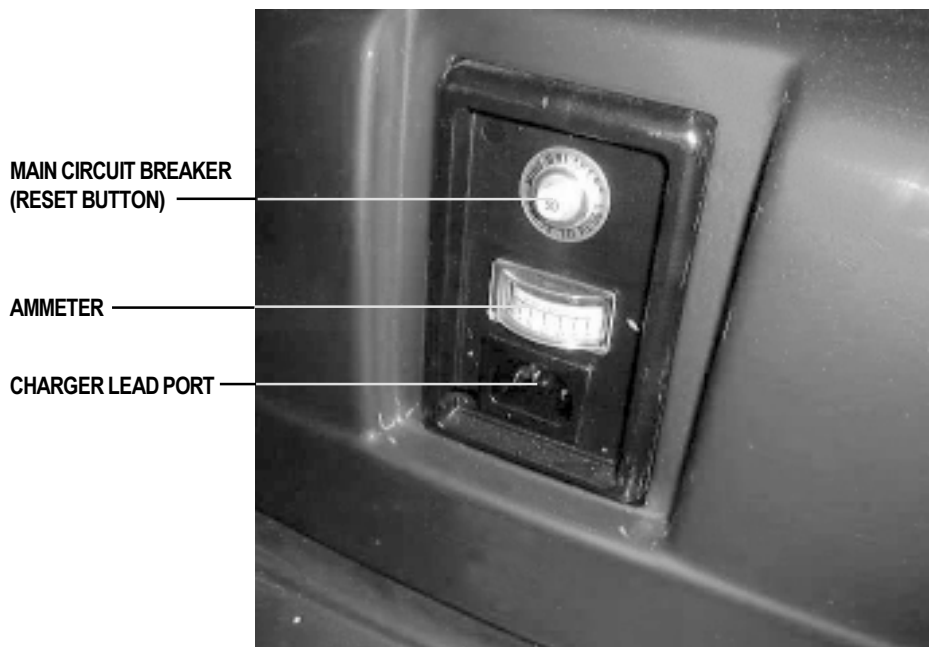
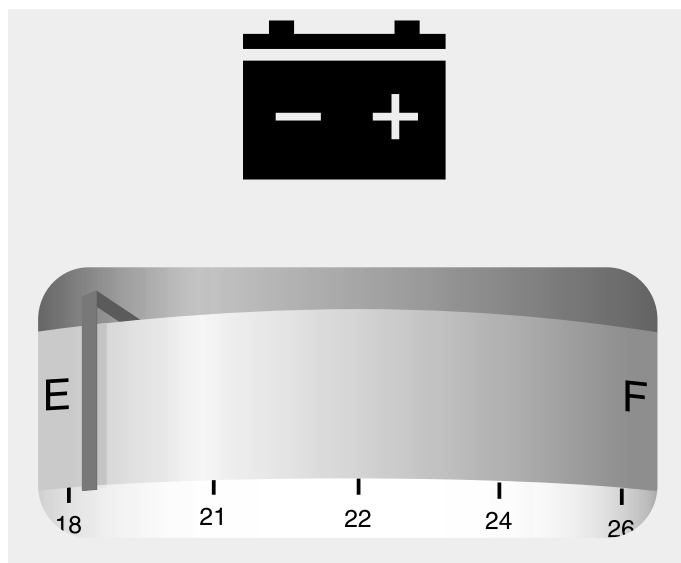

FIGURE 13. REAR SECTION
FIGURE 14. BATTERY CONDITION METER
- The main circuit breaker reset button is located at the foremost part of the rear section. See figure 13.
4. Plug the charger power cord into the charger lead port on the Victory XL-3. See figure 13.
*NOTE: It is recommended that you charge your batteries for 8 to 14 hours. You can check this periodically by the battery condition meter on the control console assembly. See figure 14. However, you must first unplug the battery charger and then insert the key. The battery condition meter on the control console assembly indicates the approximate strength of your batteries. You can also check the charge by the ammeter which is visible on the rear section. The battery charger must be plugged into a wall outlet to obtain a reading. When the amperage reading is at or near zero (0) amps, the battery charging is complete. See figures 13 and 15.*